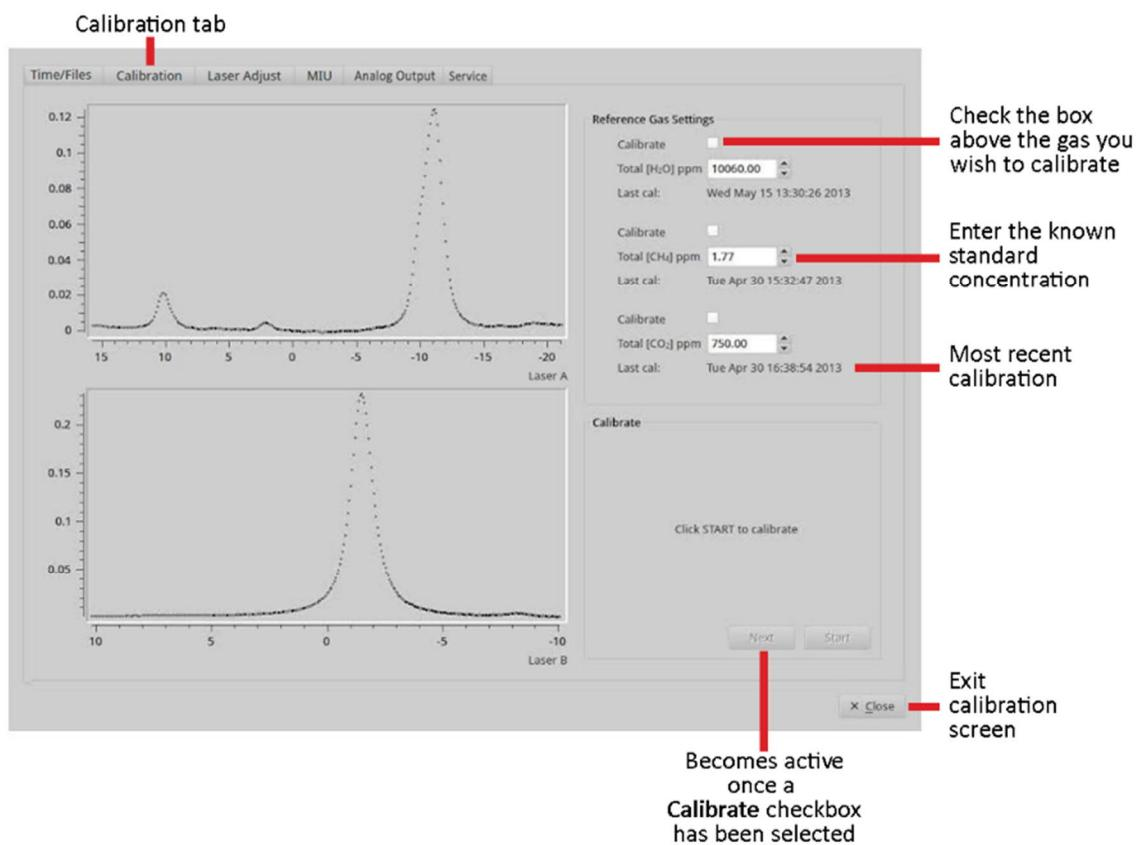

Figure 33: Calibration Setup Screen
2. Select the Calibration tab at the top of the screen to enter the *Calibration* menu. (Figure 33)